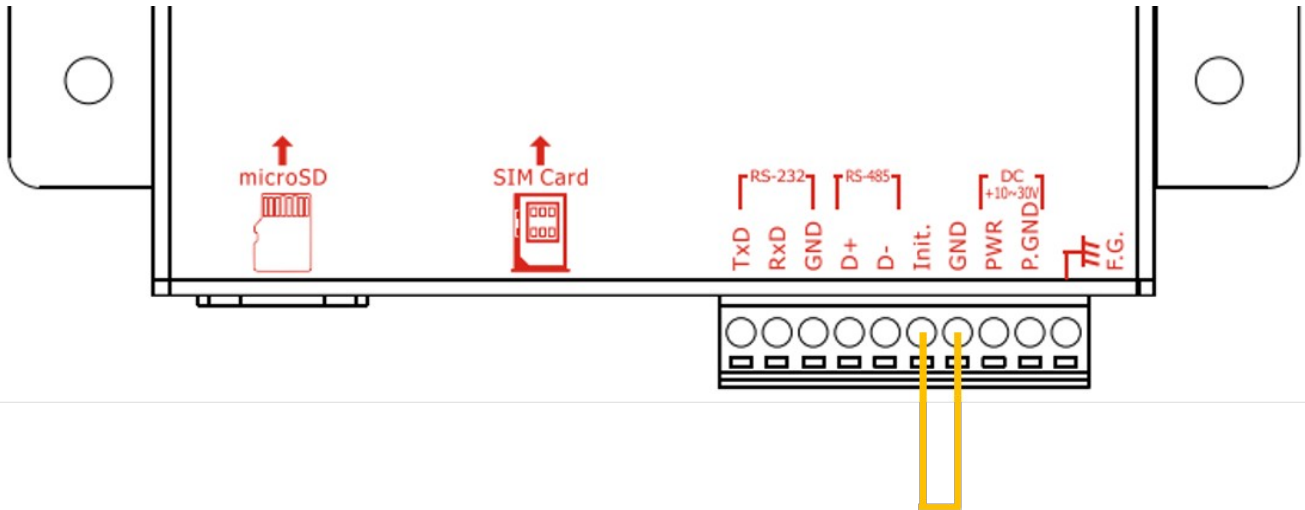

Figure 7.10.1
- A. Confirm whether the 4th Pin and the 5th Pin of GTP-541M are connected, as shown in Figure 7.10.1